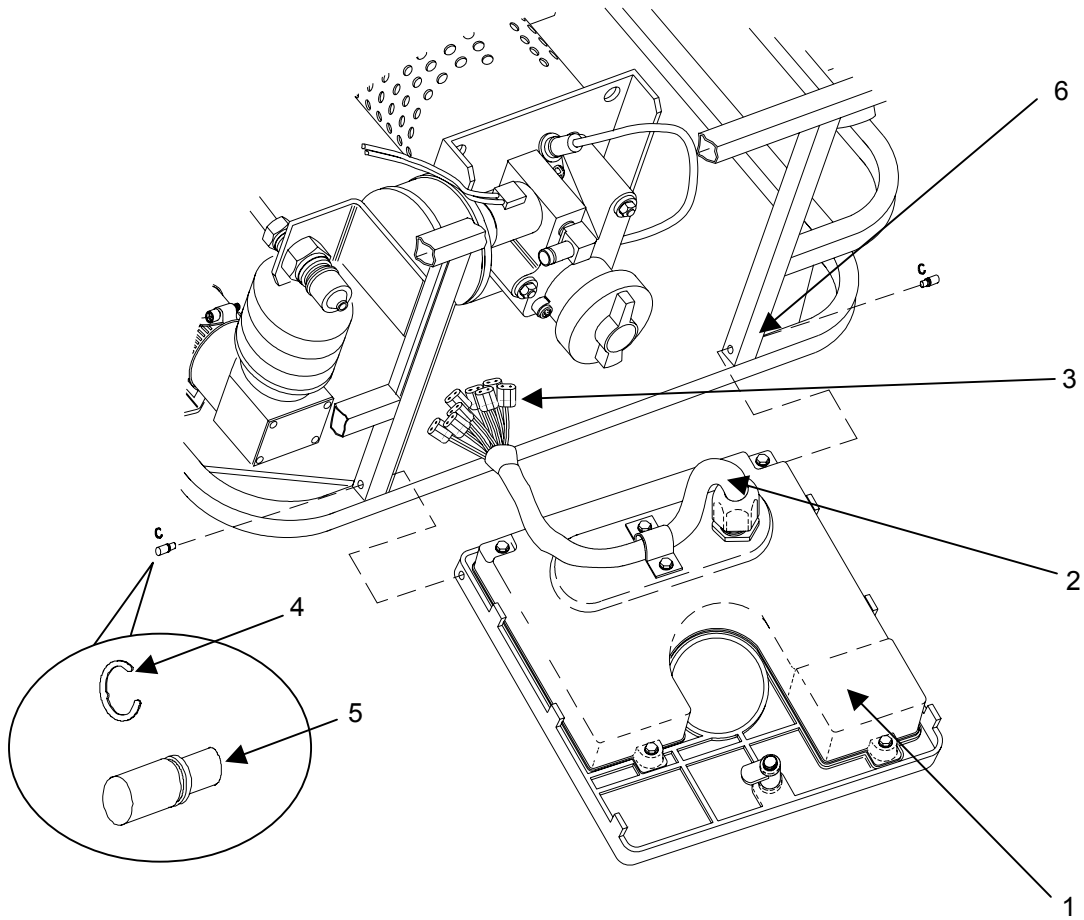

Figure 2. Replace the Controller Assembly
5. To install new hinge pins (**figure 2, item 5**), place controller assembly (**figure 2, item 1**) into position and insert hinge pins through frame (**figure 2, item 6**).
6. Secure hinge pins (**figure 2, item 5**) with snap rings (**figure 2, item 4**).
7. Reinstall the connectors (**figure 2, item 3**) at the end of the controller harness assembly (**figure 2, item 2**). Be sure to follow the color coding of the wires.
8. Close and secure the hinged controller assembly (**figure 2, item 1**).